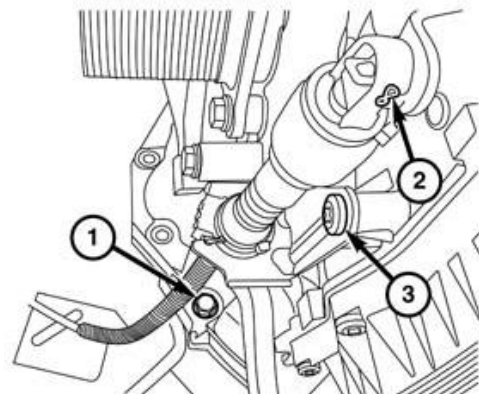

Figure 17 – MPR Cable and Bracket
37. Disconnect the manual park release cable (1) from the lever (2) (Figure 17).
38. Remove the bolts from the manual park release cable bracket (3) and set the bracket/cable (2, 3) aside (Figure 17).